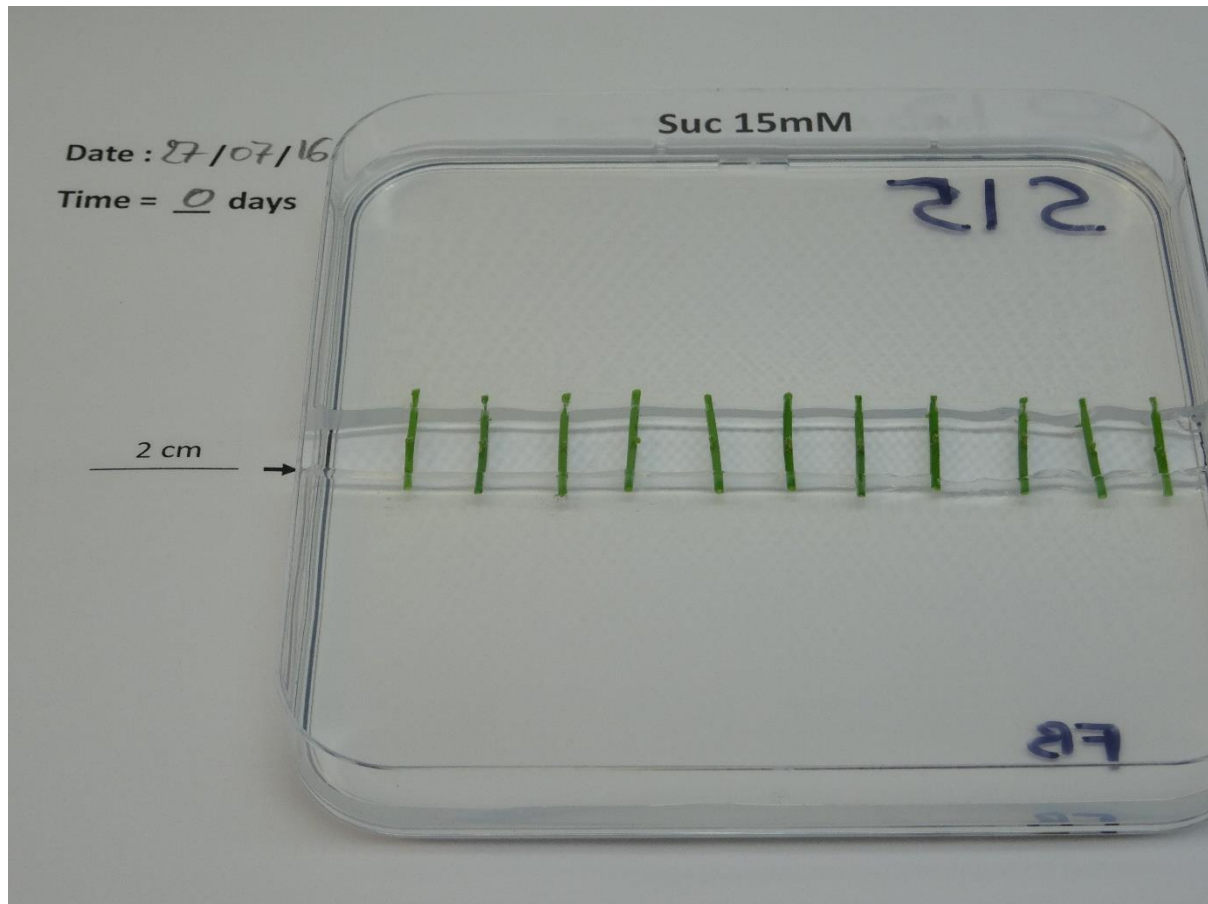

Figure 7: Example of picture taken at T0
3. Take pictures with very high resolution and zoom as much as possible to have all the buds and the scale on the same picture (example at T0, Figure 7).